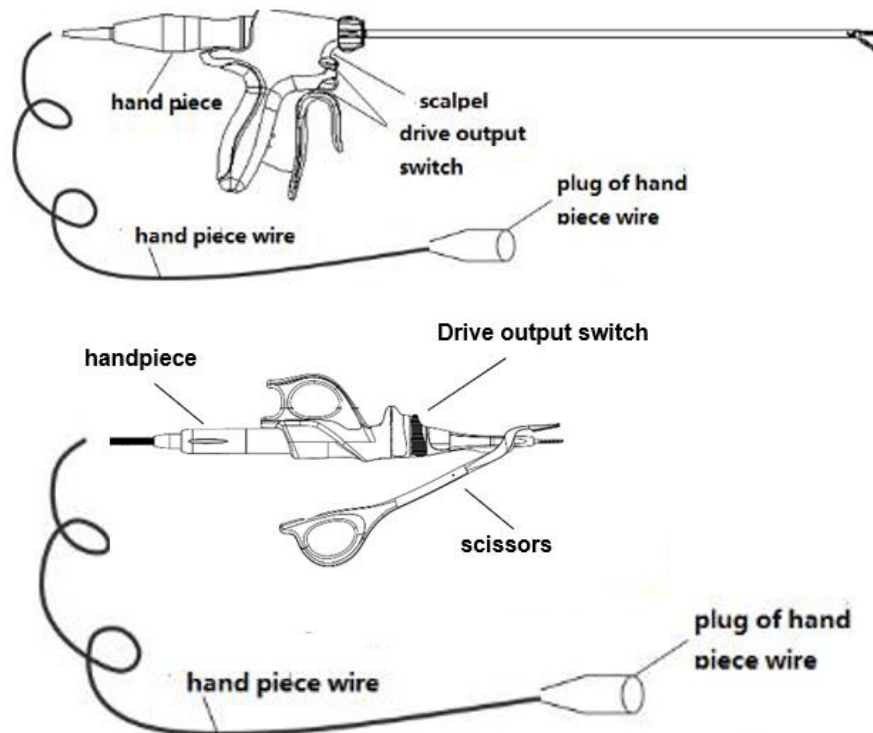

Figure 4 Connection between handpiece and scalpel/scissors
- 1) Use the torque wrench to connect the shear with the handpiece, avoid direct screwing by hand. Find finished installation in Figure 4.